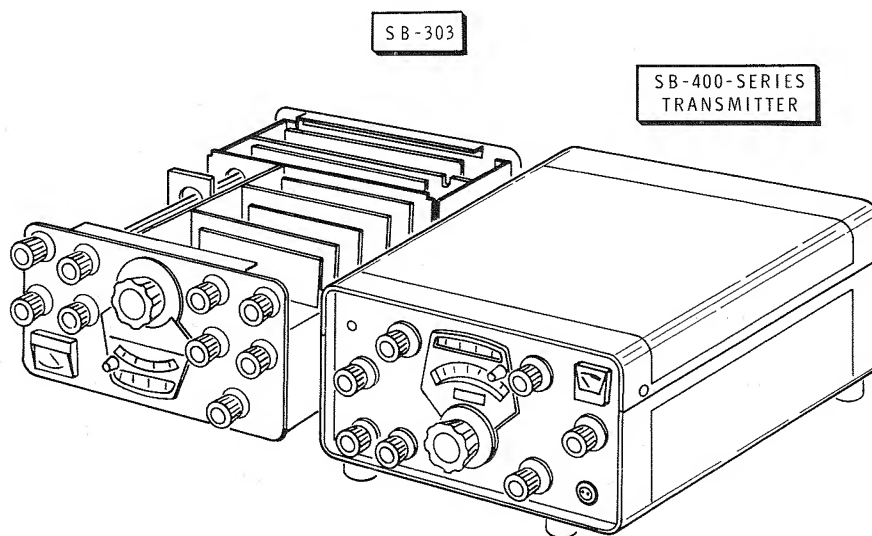

Figure 8
- ( ) 1. Position the Receiver and your transmitter as shown in Figure 8.